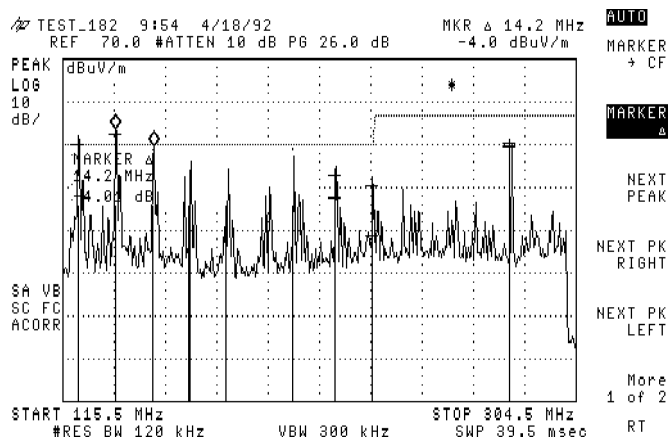

Figure 3-47. Finding the Harmonic Interval
23. Press **NEXT PK RIGHT** to place the marker on the next harmonic to the right. Note the interval. See Figure 3-47.